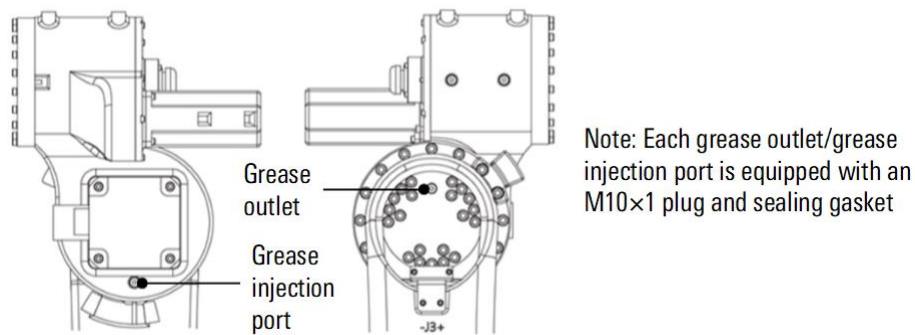

Figure 10-8 Replace the J3 axis reducer grease
- Step4. Remove the M10x1 plug and sealing gasket of the grease outlet, as shown in Figure 10-8.